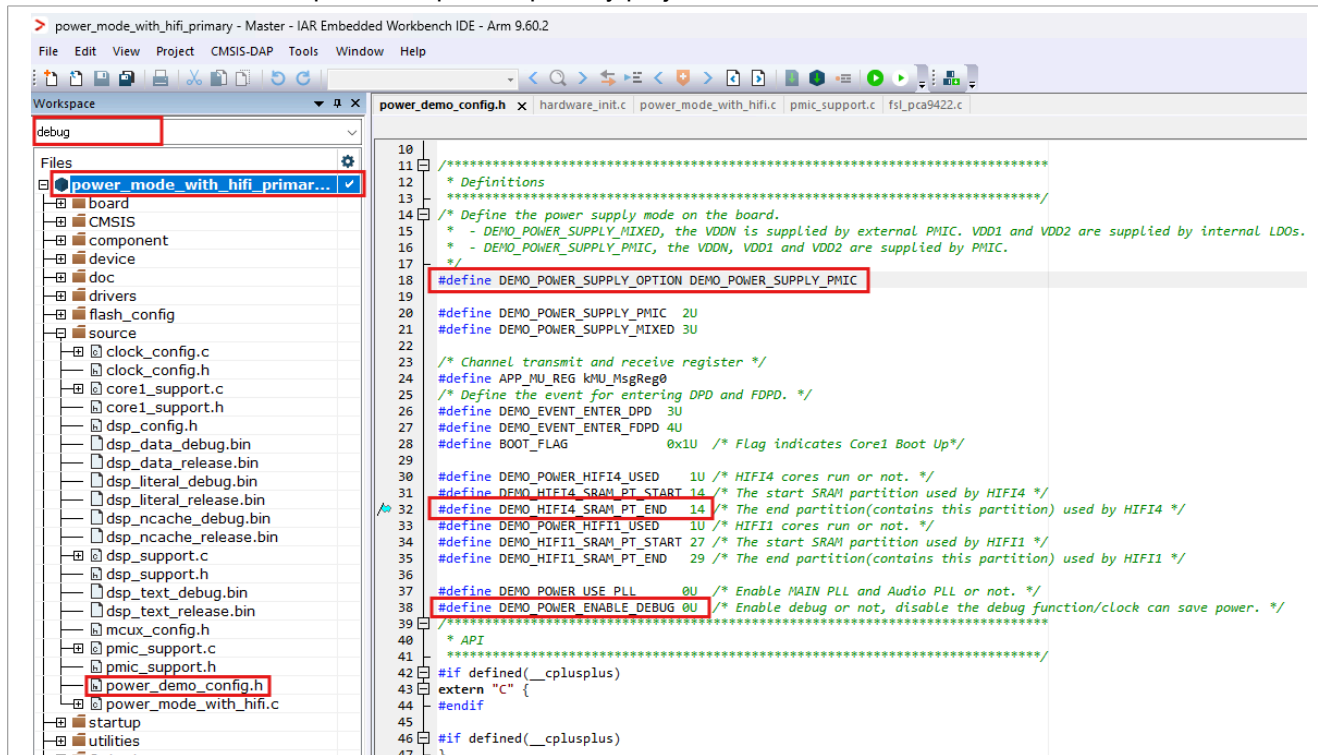

Figure 9. Modifying primary project for PMIC, debug, and SRAM settings
- Open the primary project and select the debug_target. Update the DEMO_POWER_SUPPLY_OPTION, DEMO_POWER_ENABLE_DEBUG, and DEMO_HIFI4_SRAM_PT_END settings as shown in Figure 9. Once the modifications are complete, compile the primary project.